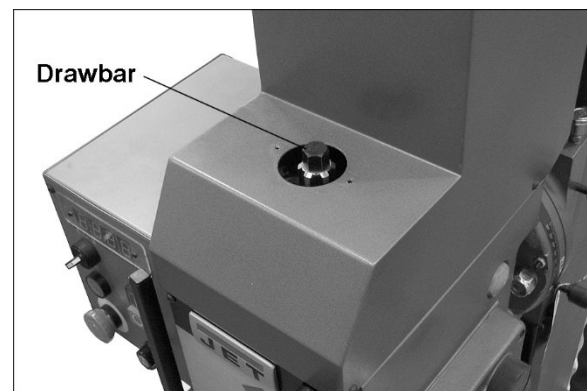

Figure 7-1
2. Remove spindle cap to expose drawbar (Figure 7-1)